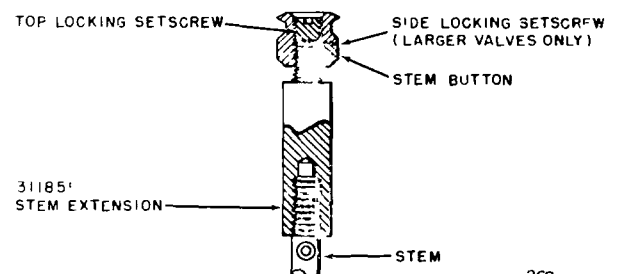

Fig 3 Detail of Stem Extension
- 3 Screw the stem extension (see Fig 3) on the stem until it bottoms. The stem and extension are drilled to accept a 1/16-inch (1.5 mm) drift pin which can be used to assist in holding the stem while turning the extensions